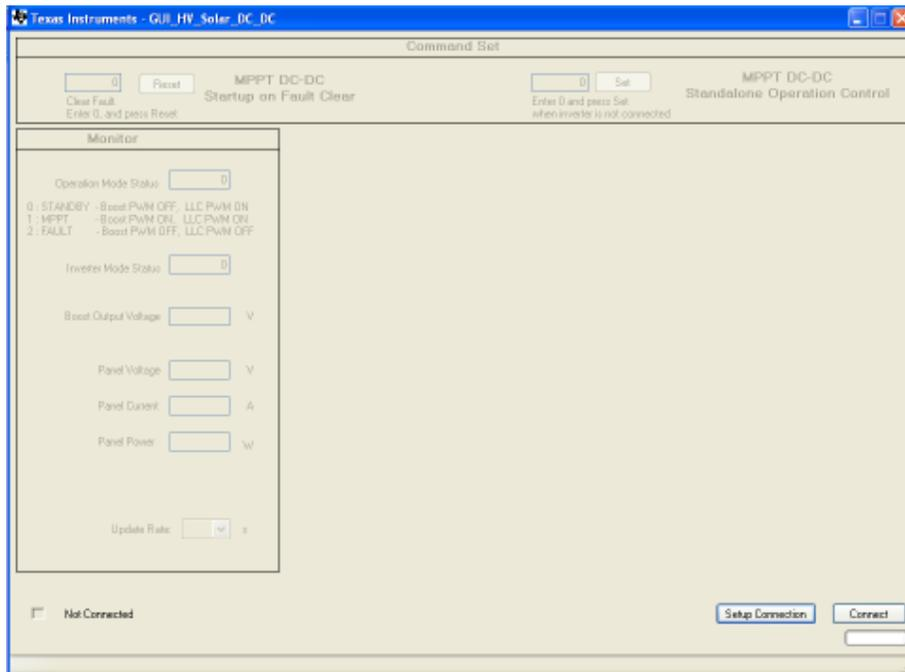

Figure 2. Something
1. Browse to `..\controlSUITE\development_kits\HV_SOLAR_DCDC\~GUI` and doubleclick on *HV SOLAR DC-DC-GUI.exe*. Figure 2 shows a screenshot for the GUI.